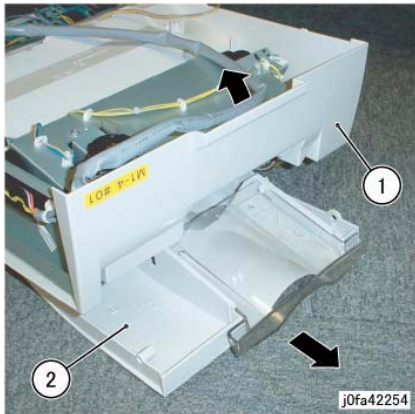

Figure 3 Removing the Top Tray
8. Remove the Top Tray (Figure 3):